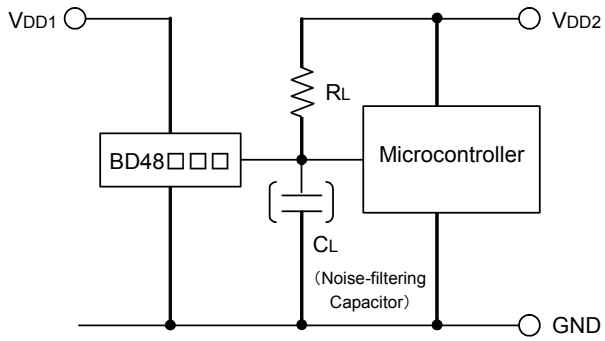

Fig.15 Open Collector Output Type
CASE1: the power supply of the microcontroller (VDD2) differs from the power supply of the reset detection (VDD1). Use the open drain output type (BD48□□G/FVE) attached a load resistance (RL) between the output and VDD2. (As shown Figure 15)